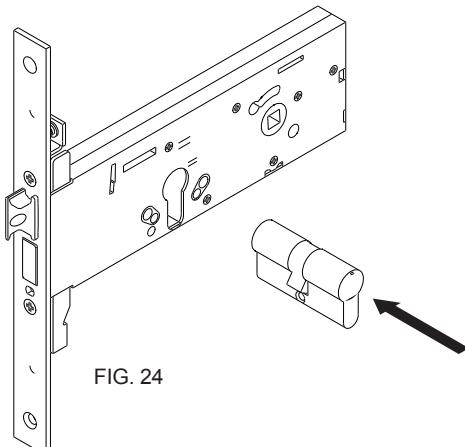
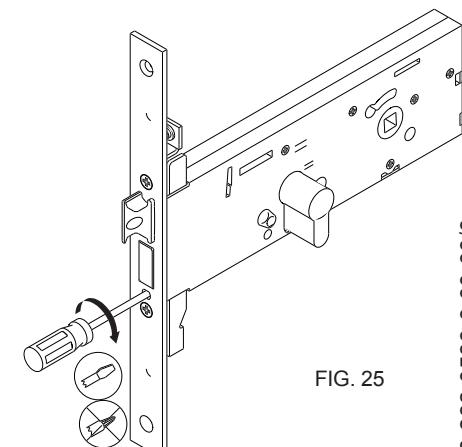

FIG. 24
FIG. 25
- I)** Fissaggio cilindro (**Fig. 24, Fig. 25**).
- I)** Fixation cylindre (**Fig. 24, Fig. 25**).
- I)** Cylinder fixing (**Fig. 24, Fig. 25**).
- L)** Installation instructions for cylinder protective rose item 06460-05/06 (see instruction sheet supplied with roses).
- I)** Fijación del cilindro (**Fig. 24, Fig. 25**).